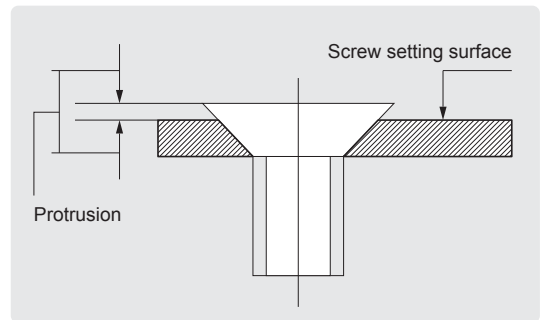

Fig.02
- Or to let the protruding screw head remain protruded from the surface. (See Fig.02)